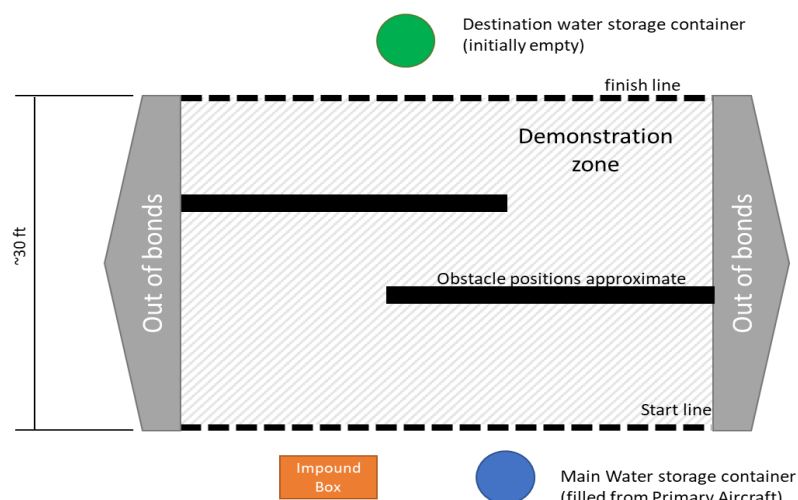

Figure 8-2: Notional Diagram of GTV Demonstration Event. Not to Scale.
- the zone (approx. 30 feet away) shall be the team's empty destination water storage container(s). Containers shall be positioned approximately as shown in Figure 8-2.
3. No more than three (3) team members may take part in the assembly and demonstration, including the manual driver. Teams may split personnel between the start and destination sides of the area however they choose, but no team member may switch sides during the demonstration.
9. Obstacles will be placed in the demonstration zone approximately as shown in Figure 8-2. The obstacles may be up to 3 inches in height.